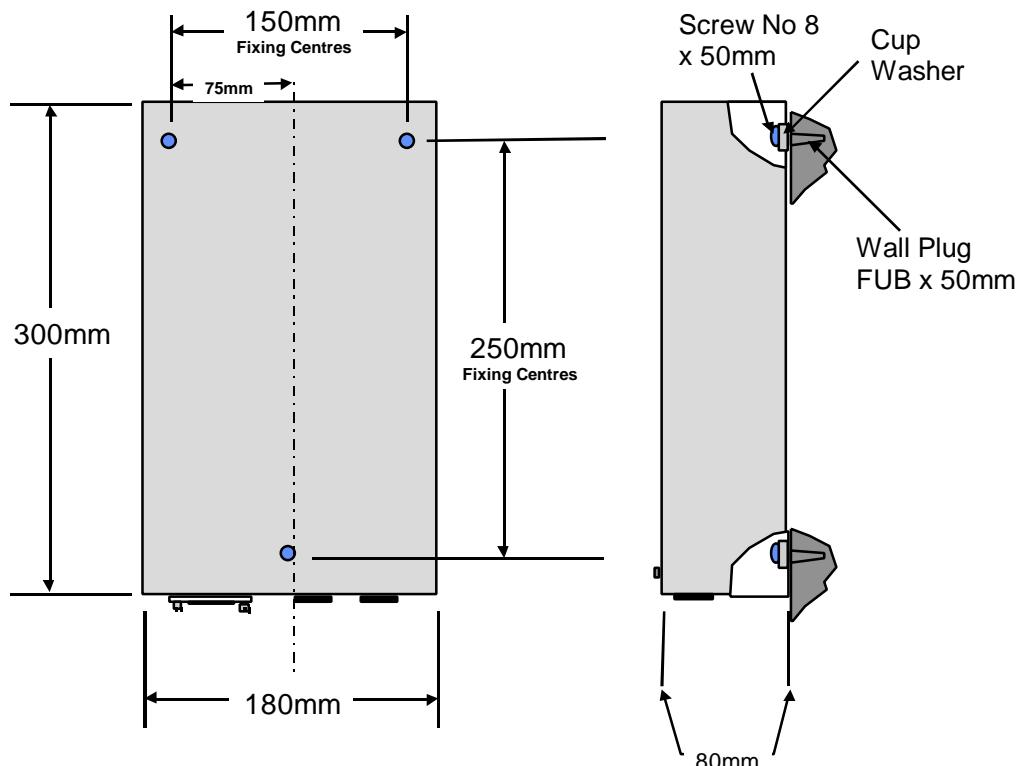

Figure 12. PSU Positioning and Securing
4. Remove the PSU front cover. Offer the PSU up into position and mark the three fixing positions onto the wall. The PSU should be fitted with the batteries towards the top and the mains input connector at the bottom. (See Figure 12).
3. Remove the PSU front cover. Offer the PSU up into position and mark the three fixing positions onto the wall. (See Figure 12).